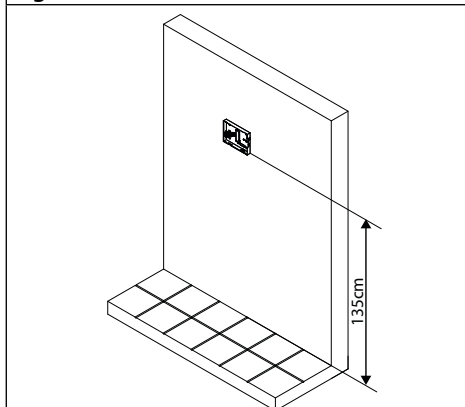

Fig. 4
1. Protect the holes to fix the videophone to the flush mounting box then embed the flush mounting box in line with the wall **in a horizontal position** at 135cm height from the floor as shown in **Fig. 4**;